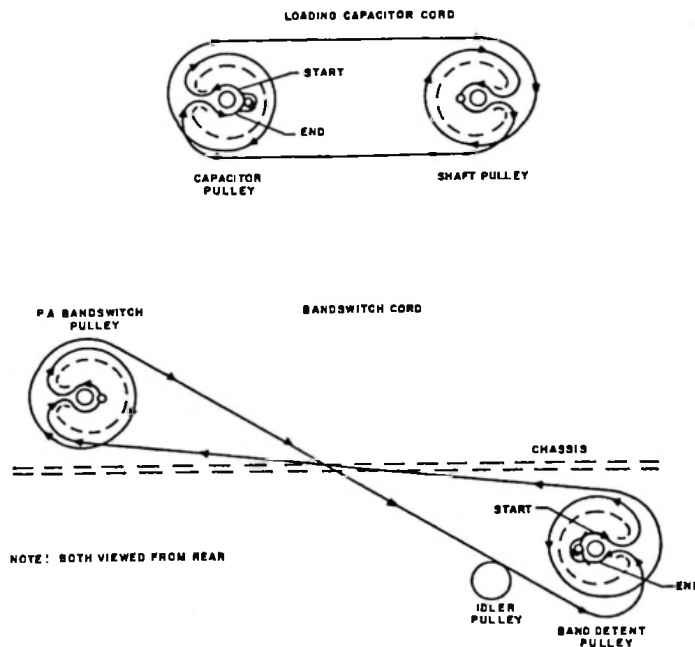

Figure 4-4. Dial Cord Stringing Diagram
4.7 Dial Cord Replacement. (Refer to figure 4-4).
- c. Place the BAND switch in position 1A, and rotate the PA band-switch pulley to the approximate position shown in figure 4-4.
The band detent pulley may not be in the exact same position shown in figure 4-4. Do not reposition this pulley, but assume it to be in the correct position during restringing.
- d. Replace the old cord with three feet of new cord, Collins part number 432-1009-00. When ordering dial cord, be sure to state the desired length in feet. String the cord according to the band-switch cord illustration in figure 4-4. Make sure cords do not overlap on the pulleys. Pull cord tight, and tie to the tab. Mash the tab down to clamp the cord securely. Tighten the idler gear to bring the cord to tension.
- e. String the cord according to the loading capacitor cord illustration in figure 4-4. Make sure cords do not overlap on the pulleys. Pull cord tight, and tie to